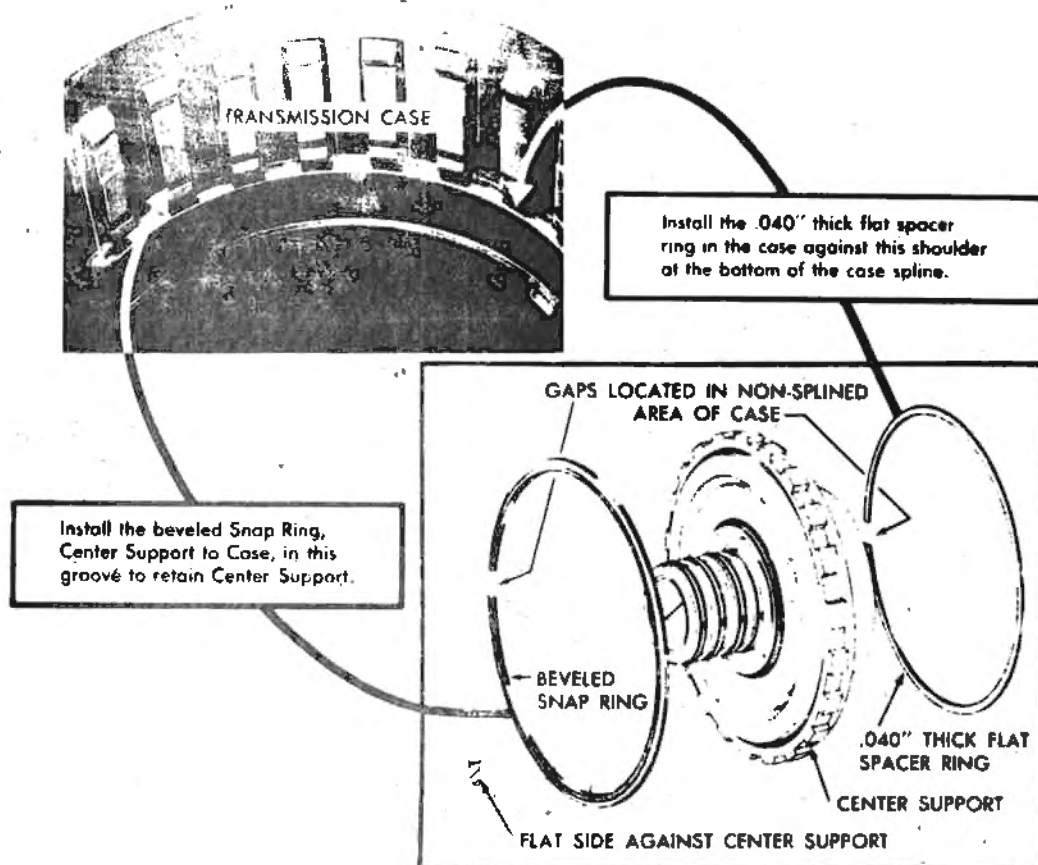

Fig. 5 Fitting the snap rings and/or spacer
1. Both sides of the centre support-to-case spacer are flat, and it is 0.040 in. (1,016 mm.) thick. If a transmission contains this spacer, it must be installed against the shoulder at the bottom of the case splines; and the gap must be located adjacent to the band anchor pin. (See Fig. 5.)